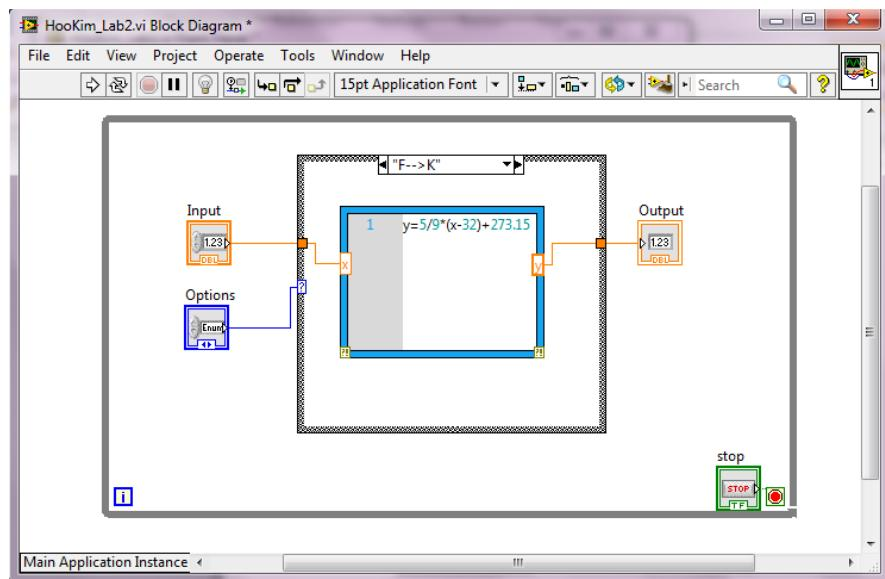

Figure 2: Temperature Converter, Block diagram
20. Wire your Input box to your Input MathScript node and your output MathScript node to your Output box like in Figure 2.